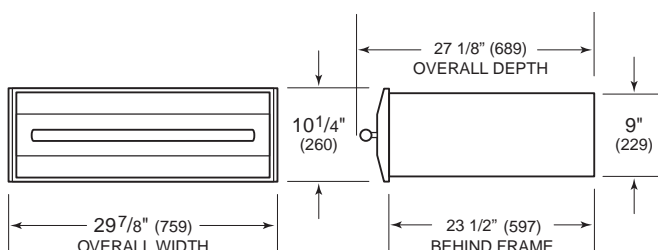

Figure 2-3. Overall Unit Dimensions
Wolf recommends using a 33" (838) wide cabinet for the warming drawer with stainless steel drawer front. A minimum 30" (762) wide by 24" (610) deep cabinet is required with a minimum base support of 200 lbs (91 kg). (See Figure 2-3 and 2-5)